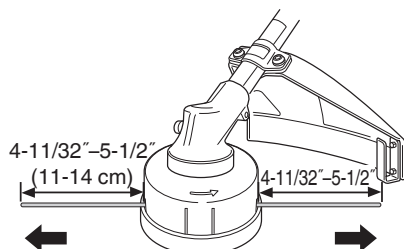

Fig. 26
- (7) The initial cutting line length should be approx. 4-11/32"-5-1/2" (11-14 cm) and should be equal on both sides. (Fig. 26)